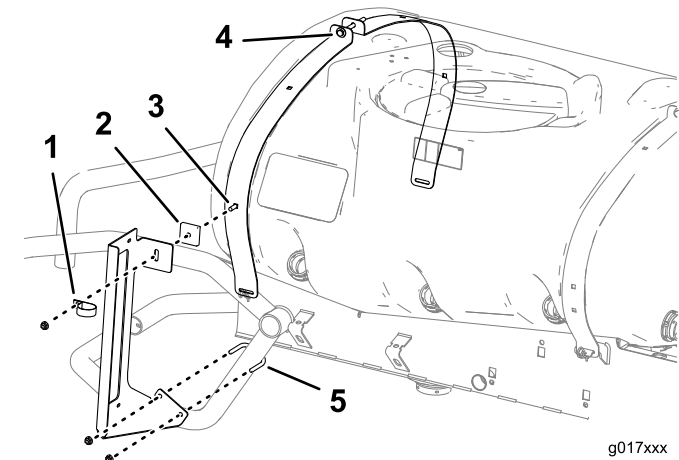

Figure 1
- Loosen the bolt on the top of the strap (Figure 1).
- Place the U-bolt onto the machine as shown in Figure 1.
- Place the carriage bolt through the strap of the sprayer tank belt (Figure 1).
- Slide the spacer onto the bolt and place the bracket onto the bolt as shown in Figure 1.